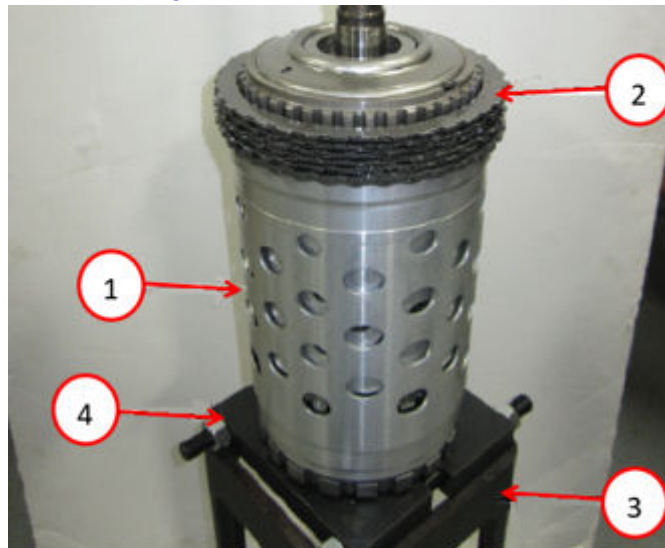

Fig. 33
52. ****Install the Clutch B discs and plates Fig. 33.****